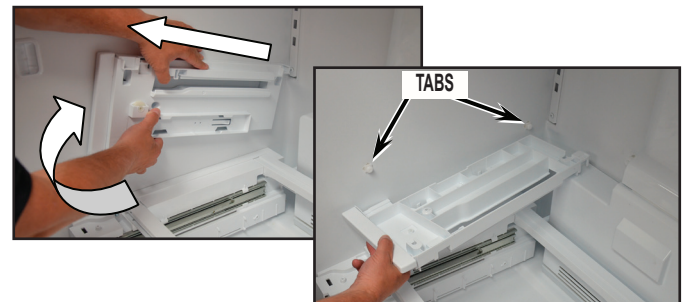

FIGURE 23
10. Remove side plate by lifting front and pulling forward off of tabs. See *Figure 23*.